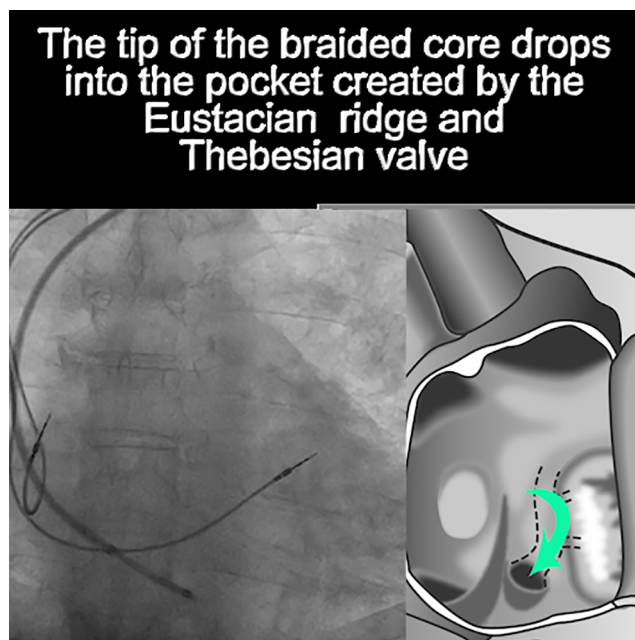

Figure 4. How to cannulate the CS utilizing catheter manipulation and contrast injection (watch video 1 for details).
1. Problem: how to locating the CS for CS cannulation (figure 4)?